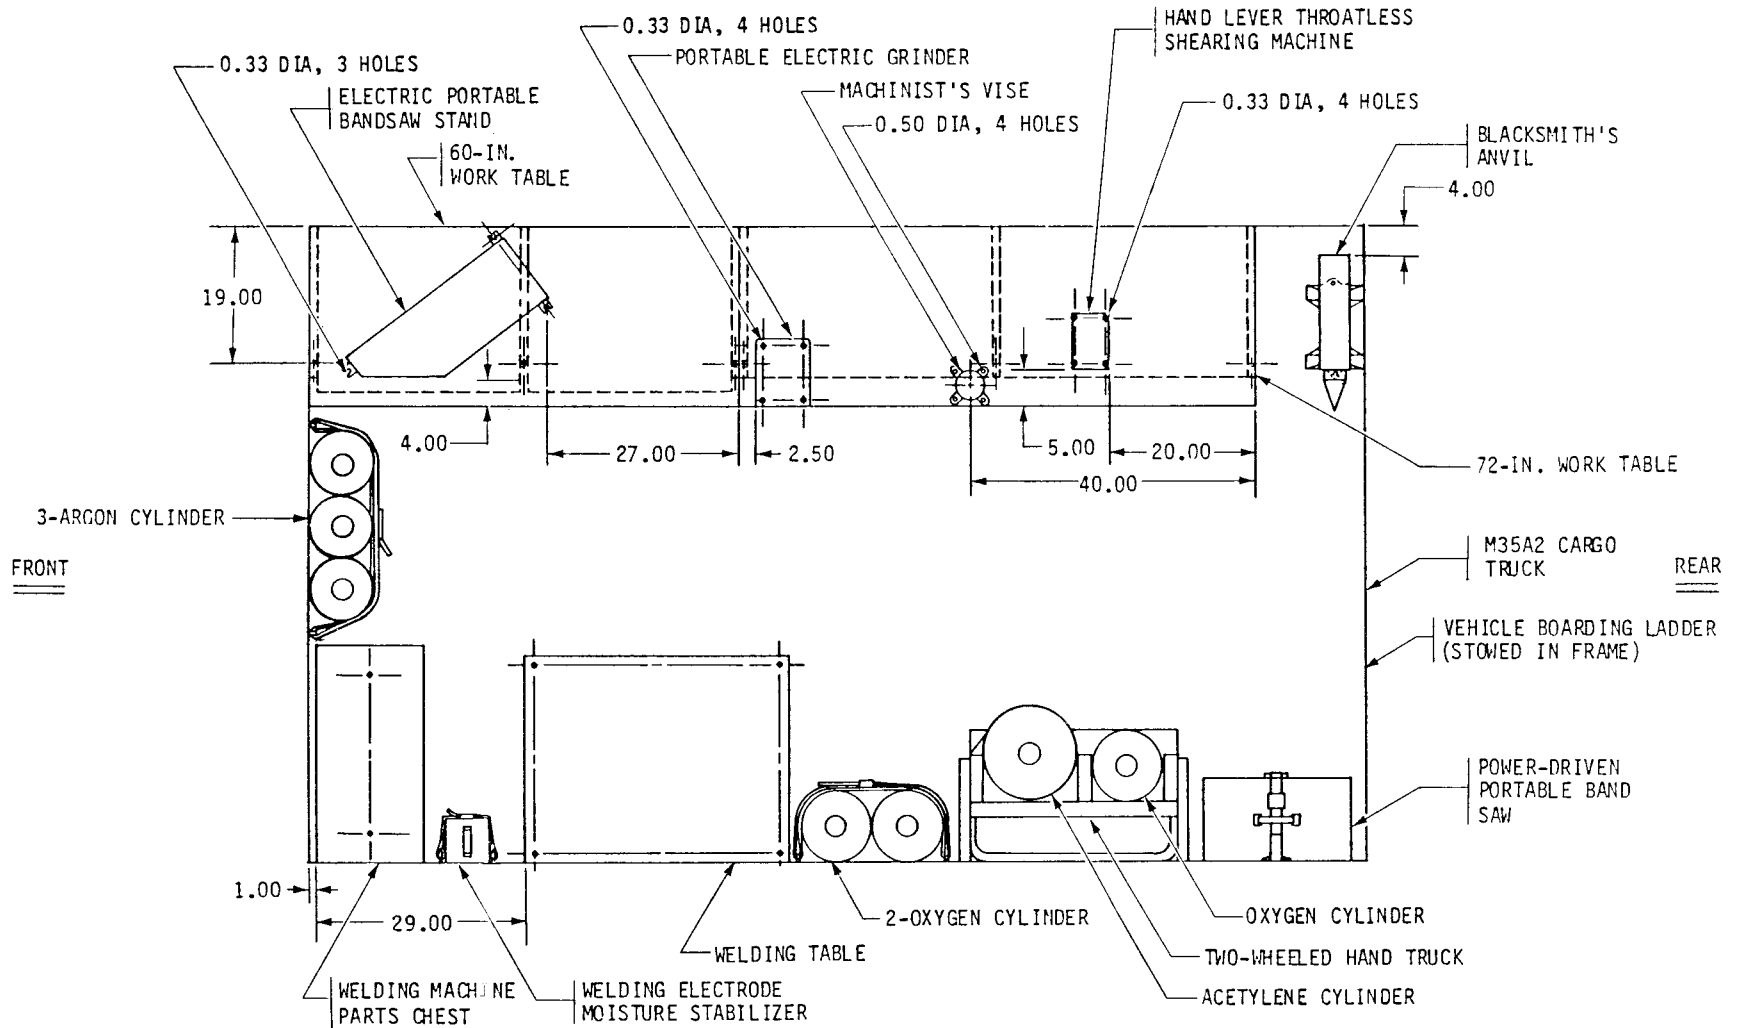
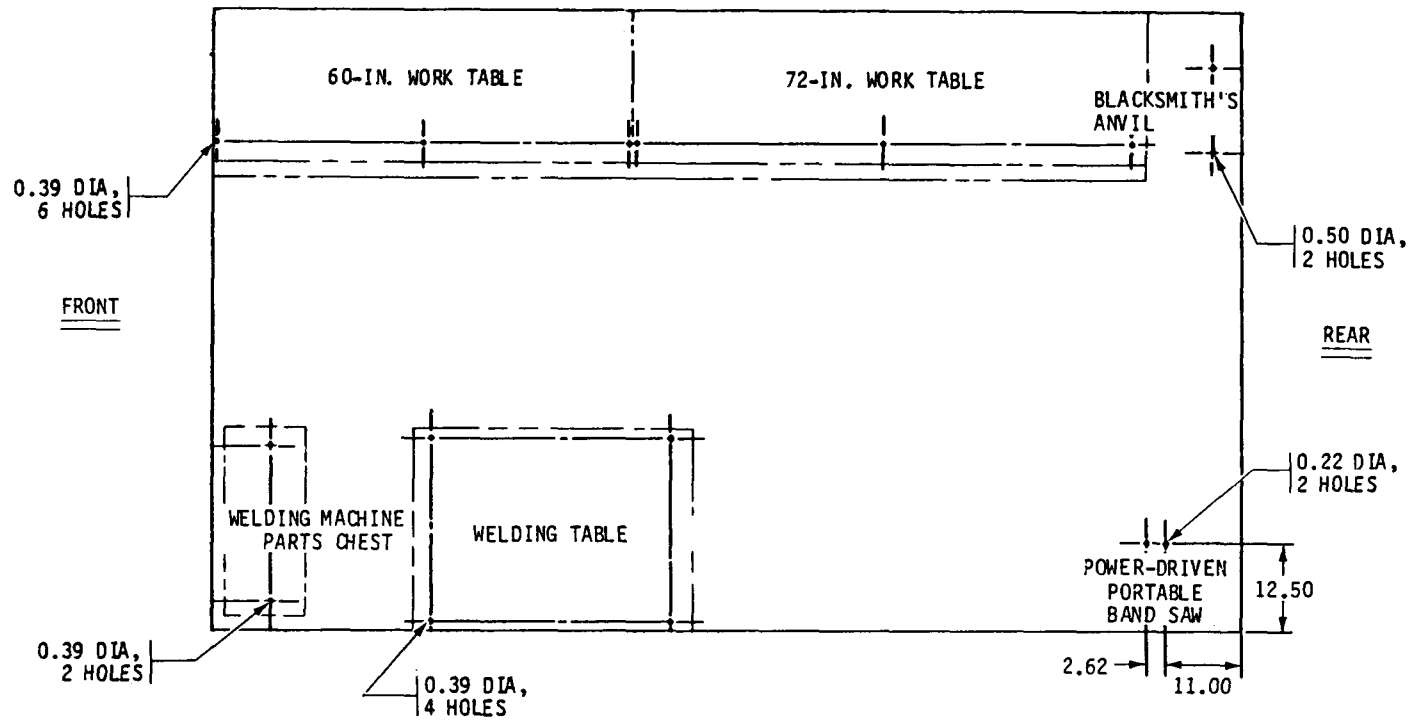
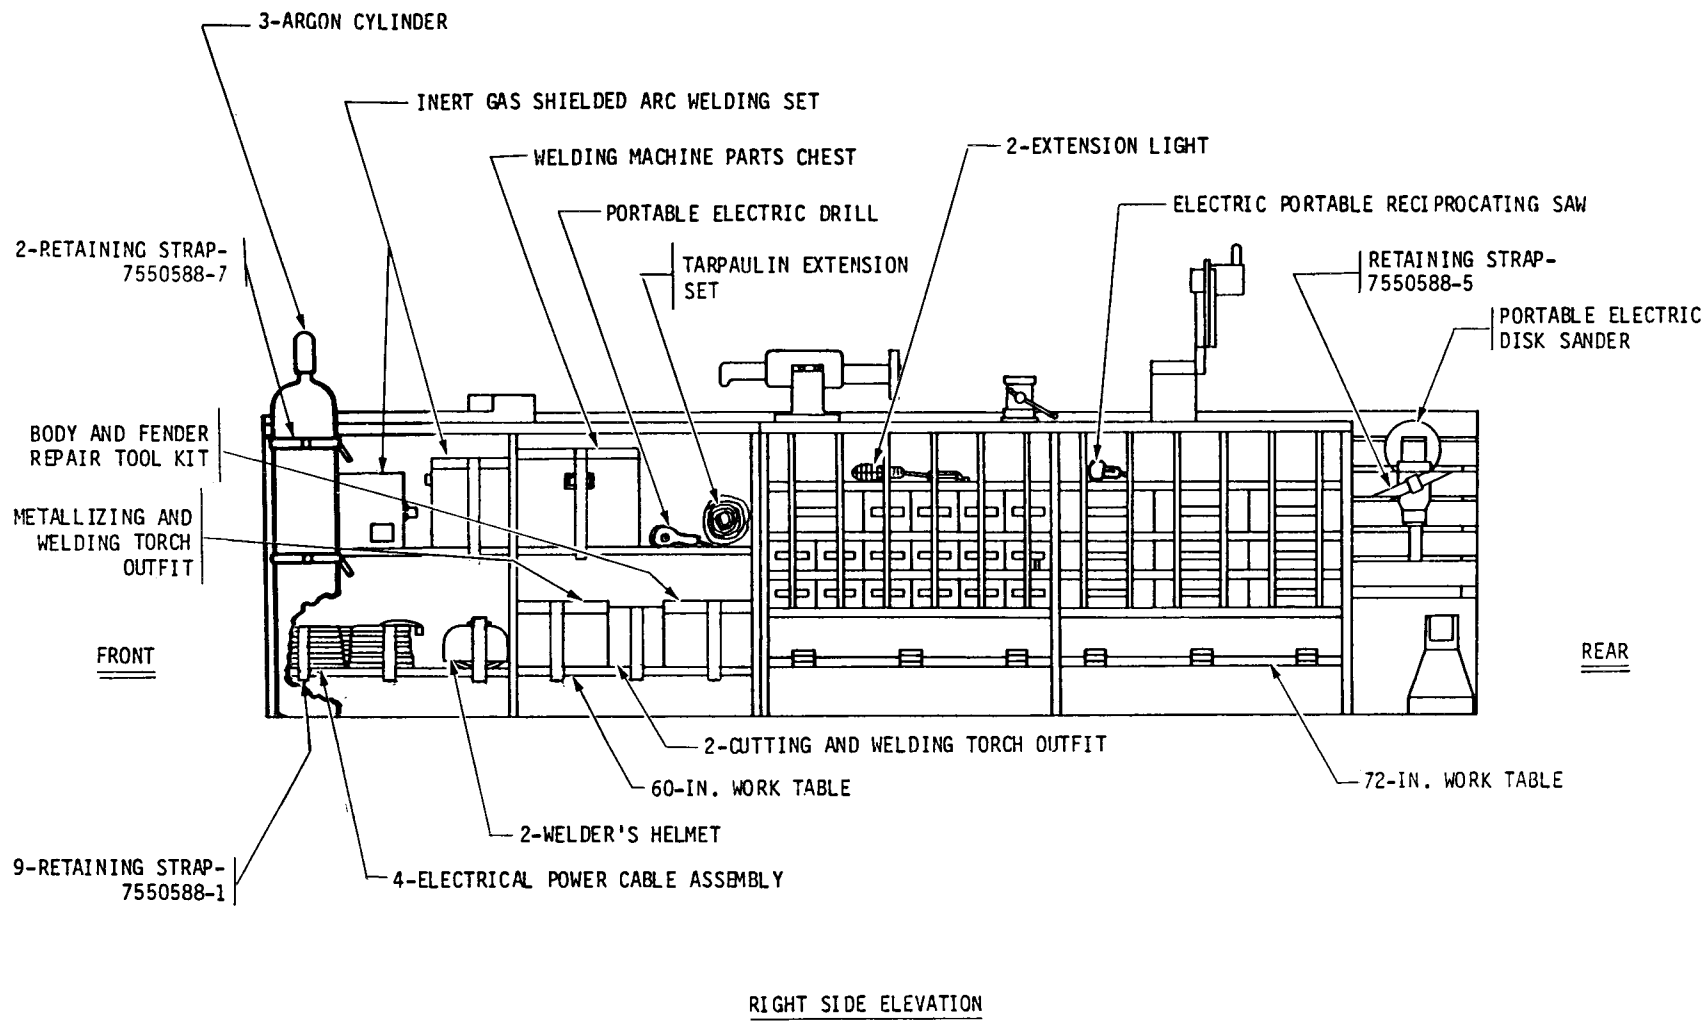
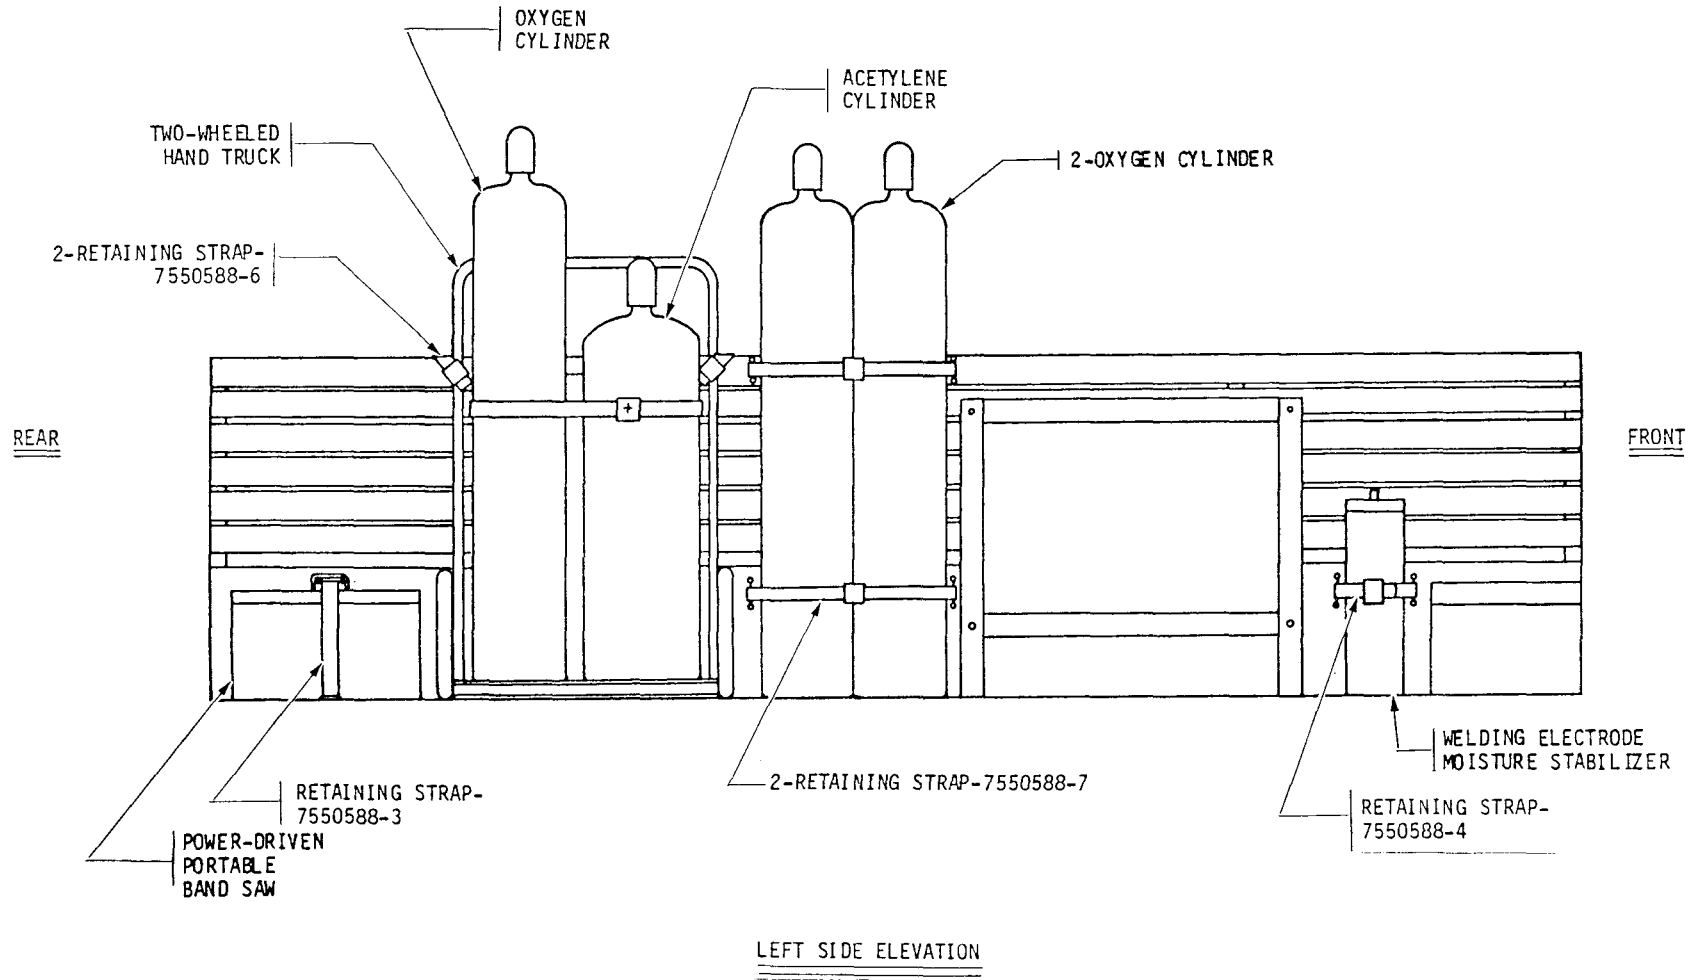

Figure 2. Components to be Mounted, Unit 1, M35A2, Floor Plan.
Figure 3. Hole Dimensions for Mounted Components and Strap Loops, Unit 1, M35A2, Floor Plan.
Figure 5. Components to be Stowed, Unit 1, M35A2, Right Side Elevation.
Figure 6. Components to be Mounted, Unit 1, M35A2, Left Side Elevation.
Blind hand riveter (5120-00-679-6523) is used for installation of blind rivet nuts in unit walls. Install blind rivet nuts in accordance with the manual supplied with the hand riveter. Position floor-mounted equipment, shown in figures 2 and 8. Use equipment mounting holes as template for location of drilled floor mounting holes in accordance with figures 3 and 9.
c. Drill two 0.22-in. diameter holes in floor in accordance with dimensions shown in figure 3, unit 1.
Follow steps (1) thru (18) below for equipment installation in unit 1. Refer to figures 2 and 3 for component locations and dimensions.
(1) Position 60-in. and 72-in. work tables (4910-00-543-7772 and 4910-00-543-7771) in accordance with figures 2 and 3. Mark and drill six 0.39-in. diameter holes through work table legs and truck floor on aisle side only in accordance with figure 3. Secure work tables to floor of truck using six 5/16- x 1-in. hex head capscrews (MS90725-34) and six 5/16-in. flat washers (MS27183-11); under truck floor use six 5/16-in. lockwashers (MS35338-45) and six 5/16-in. hex nuts (MS51967-5).
(2) Position welding table (3436-00-847-3772) in accordance with figures 2 and 3. Drill four 0.39-in. diameter holes through leg bases and truck floor. Secure welding table to floor, using four 3/8- x 1-3/8-in. hex head capscrews (MS90725-63) and four 3/8-in. flat washers (MS27183-13); under truck floor use four 3/8-in. lockwashers (MS35338-46) and four 3/8-in. hex nuts (MS51967-8).
(3) Position small parts box (8115-00-679-5594) in accordance with figures 2 and 3. Drill two 0.39-in. diameter holes through bottom center line of small parts box and floor. Secure small parts box to floor, using two 3/8- x 1-3/4-in. hex head capscrews (MS90725-65) and two 3/8-in. flat washers (MS90725-13; under truck floor, use two 3/8-in. lockwashers (MS35338-46) and two 3/8-in. hex nuts (MS51967-8).
(4) Secure case for power-driven portable band saw (5130-00-903-2510) to
floor (fig. 2), using a 48-in. retaining strap (7550588-3) in accordance with figure 6.
(5) Secure welding electrode moisture stabilizer (3439-00-440-0090) to wall (fig. 2), using a 36-in. retaining strap (7550588-4) in accordance with figure 6.
(6) Secure two oxygen cylinders (8120-00-151-9758) to wall of truck (fig. 2), using two 92-in. retaining straps (7550588-7) in accordance with figure 6.
(7) Position two-wheeled hand truck (3920-00-272-7732), containing one acetylene cylinder (8120-00-268-3360) and one oxygen cylinder (8120-00-151-9758) in accordance with figure 2. Secure tie-wheeled hand truck to wooden truck slats, using two 12-in. retaining straps (7550588-6) (fig. 6).
(8) Position blacksmith's anvil (5120-00-180-2885) in accordance with figure 2. Using base as template, mark and drill two 0.50-in. diameter holes through floor (fig. 3). Secure blacksmith's anvil to floor, using two 1/2- x 3-1/4-in. hex head capscrews (MS90725-120) and two 1/2-in. flat washers (MS27183-17); under truck floor use two 1/2-in. lockwashers (MS35338-48) and two 1/2-in. hex nuts (MS51967-14).
(9) Position electric portable bandsaw stand (5130-00-134-4535) on tabletop (60-in. work table) in accordance with figure 2. Using base as template, mark and drill three 0.33-in. diameter holes through tabletop. Secure electric portable bandsaw stand to tabletop, using three 5/16- x 2-1/4-in. hex head capscrews (MS90725-41), three 5/16-in. flat washers (MS27183-11), three 5/16-in. lockwashers (MS35338-45), and three 5/16-in. hex nuts (MS51967-5).
(10) Position portable electric grinder (5130-00-293-2488) on tabletop (72-in. work table) in accordance with
figure 2. Using base as template, mark and drill four 0.33-in. diameter holes through tabletop. Secure portable electric grinder to table top, using four 5/16- x 2-1/4-in. hex head capscrews (MS90725-41), four 5/16-in. flat washers (MS27183-11), four 5/16-in. lockwashers (MS35338-45), and four 5/16-in. hex nuts (MS51967-5).
(11) Position machinist's vise (5120-00-293-1439) on table top (72-in. work table) in accordance with figure 2. Using base as template, mark and drill four 0.50-in. diameter holes through tabletop. Secure machinist's vise to tabletop, using four 1/2- x 3-1/4 in. hex head capscrews (MS90725-120), four 1/2-in. flat washers (MS27183-17), four 1/2-in. lockwashers (MS35338-48), and four 1/2-in. hex nuts (MS51967-14).
(12) Position hand lever throatless shearing machine (3445-00-244-4527) on tabletop (72-in. work table) in accordance with figure 2. Using base as template, mark and drill four 0.33-in. diameter holes through tabletop. Secure hand lever throatless shearing machine to tabletop, using four 5/16- x 2-1/4-in. hex head capscrews (MS90725-41), four 5/16-in. flat washers (MS27183-11), four 5/16-in. lockwashers (MS35338-45), and four 5/16-in. hex nuts (MS51967-5).
(13) Stow welding torch outfit (3431-00-691-1415) and small parts box (8115-00-679-5594) on upper shelf of 60-in. work table and secure with three 92-in. retaining straps (7550588-7) (fig. 5).
(14) Stow portable electric drill (5130-00-889-9004) and tarpaulin extension set (2540-00-449-7180) on upper shelf of 60-in. work table and stow two extension lights (6230-00-729-9259), and electric portable reciprocating saw (5130-00-720-0654) on upper shelf of 72-in. work (table (fig. 5).
(15) Stow portable electric disk sander (5130-00-857-8526) on truck slats and secure with a 24-in. retaining strap (7550588-5) (fig. 5).
(16) Stow two welder's helmets (4240-00-540-0623), four electrical power cable assemblies (6150-00-682-3460), metallizing and welding torch outfit (3433-00-880-0512), body and fender repair tool kit (5180-00-357-7731), and two cutting and welding torch outfits (3433-00-357-6311) on bottom shelf of 60-in. work table and secure with six 92-in. retaining straps (7550588-7) (fig. 5).
(17) Vehicle boarding ladder (2540-00-641-0187) is stowed in M35A2 cargo truck frame.
(18) Position three argon cylinders (8120-00-357-7992) against front wall in accordance with figures 2 and 5. Secure argon cylinders to front truck slats using two 92-in. retaining straps (7550588-7).